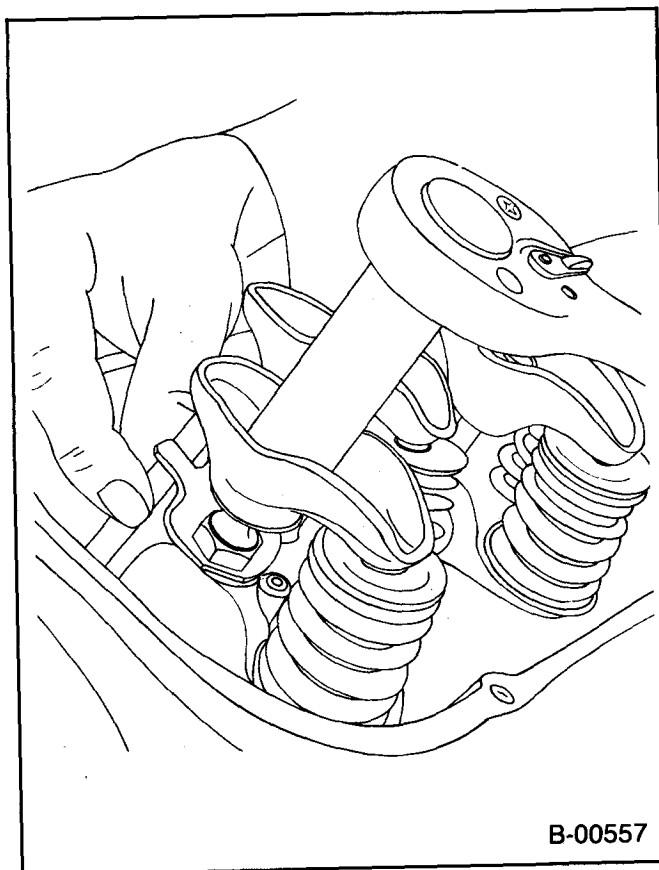

Figure 3—Adjusting The Valves
4. Back out the adjusting nut until lash is felt at the pushrod then turn in the adjusting nut until all lash is removed. This can be determined by rotating the pushrod while turning the adjusting nut (figure 3). When the play has been removed, turn the adjusting nut in $\frac{3}{4}$ additional turn (to center the lifter plunger).